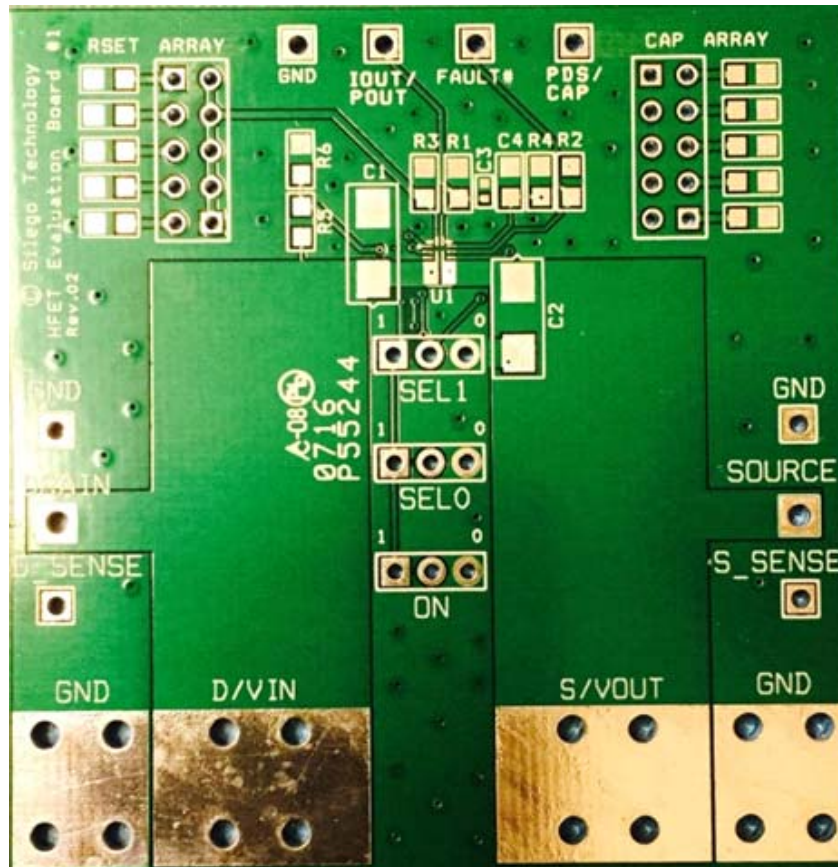

Figure 17. SLG59H1012V Evaluation Board
1. Since the VIN and VOUT pins dissipate most of the heat generated during high-load current operation, it is highly recommended to make power traces as short, direct, and wide as possible. A good practice is to make power traces with absolute minimum widths of 15 mils (0.381 mm) per Ampere. A representative layout, shown in Figure 17, illustrates proper techniques for heat to transfer as efficiently as possible out of the device;
A HFET1 Evaluation Board for SLG59H1012V is designed according to the statements above and is illustrated on Figure 17. Please note that evaluation board has D\_Sense and S\_Sense pads. They cannot carry high currents and dedicated only for RDSON evaluation.